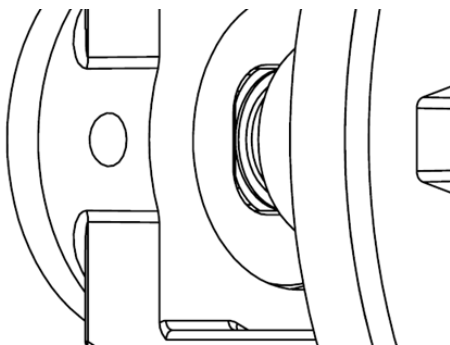

Figure 10
3. The stationary seal should be properly seated, as shown in Figure 10, before continuing the assembly of the pump.